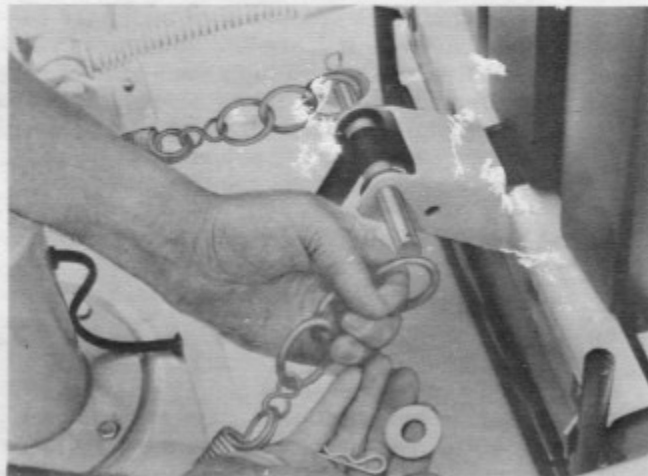

Figure 7
4. Lift the mower to its raised position and attach mower "helper" springs to either side of the front lift-guide axle using similar links on each chain extension. Secure with washers and hair pin cotters (See Figure 7). For normal conditions, the upper or center links should be used. If side hills are to be mowed, best results may be obtained using the lower links. This applies more of the mower weight to the front tractor wheels and permits better steering control.